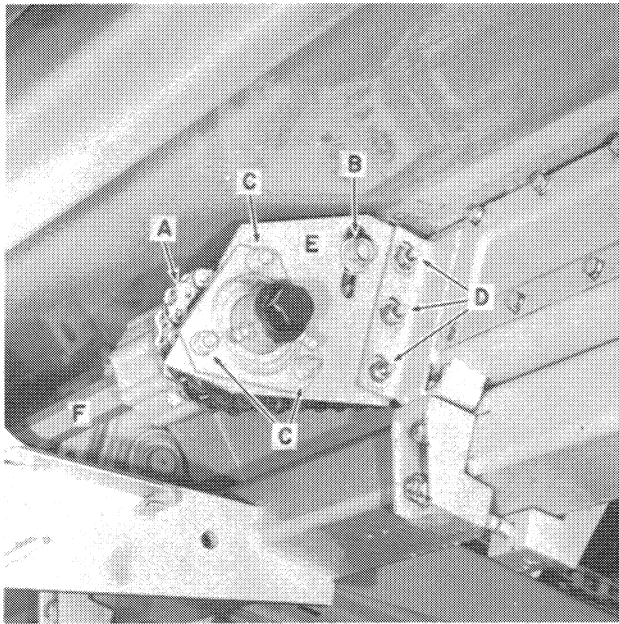

Figure 2-24
1. Install each slip clutch assembly on the row unit drive shaft, F, Figure 2-24.
6. Install plates, E, Figure 2-24, attaching row unit drive shaft, F, to the row unit assembly. Use the original hardware. Snug hardware, C, securing the bearing flangettes to mount plate, E. Tighten hardware, D, only finger tight.
12. Install the slip clutch to row unit drive chains, A, Figure 2-24.
14. Tension each chain, A, Figure 2-24, using the tension idler. Proper tension is when 1/4" (6 mm) free movement is obtained with moderate finger pressure on the bottom strand of chain, midway between the drive and driven sprockets. Rotate the sprocket to allow for sprocket runout. Maintain 1/4" (6 mm) movement at the tightest point.
Adjust each chain by loosening the idler mount cap screw, B, Figure 2-24. Reposition the idler. Tighten cap screw, B